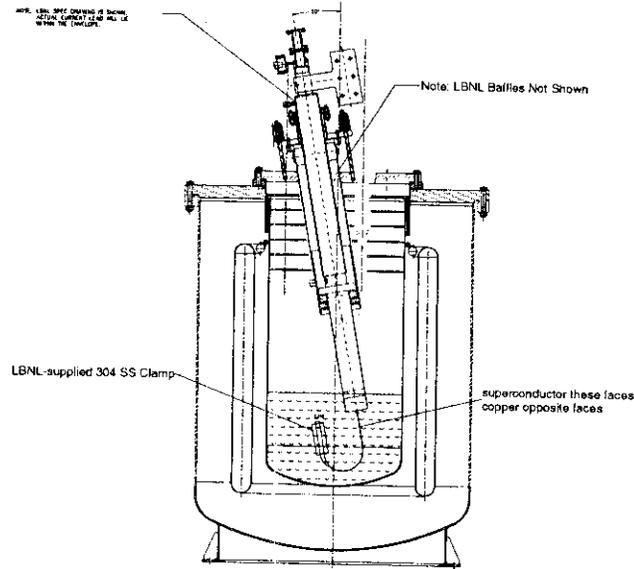
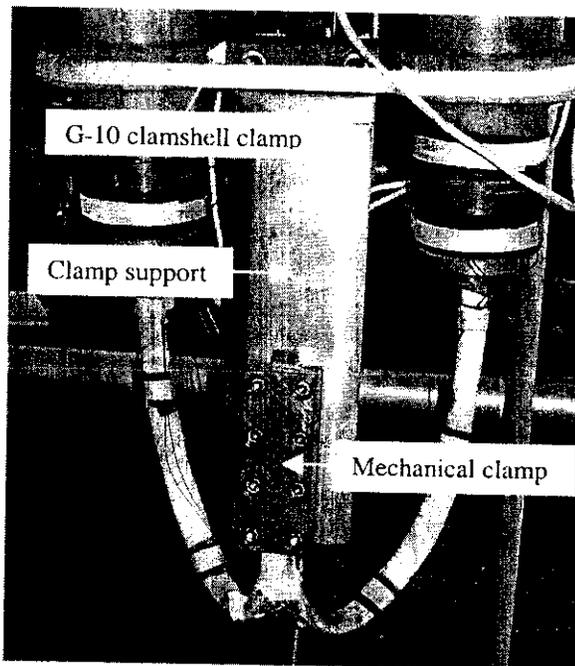

Figure 4.1a Side View of Lead in Cryostat with the LTS cables connected.
Figure 4.1b Electrical integration of the LTS sections.
- 4.2 Make connection to LTS pigtailed. The joint is a mechanical connection with a stainless steel clamp (supplied by LBNL) and indium foil between the cables to ensure good electrical contact. Figure 4.1a shows a rendition of the installed power leads. Figure 4.1b shows the G-10 clamshell clamp, the clamp support, and the mechanical clamp.